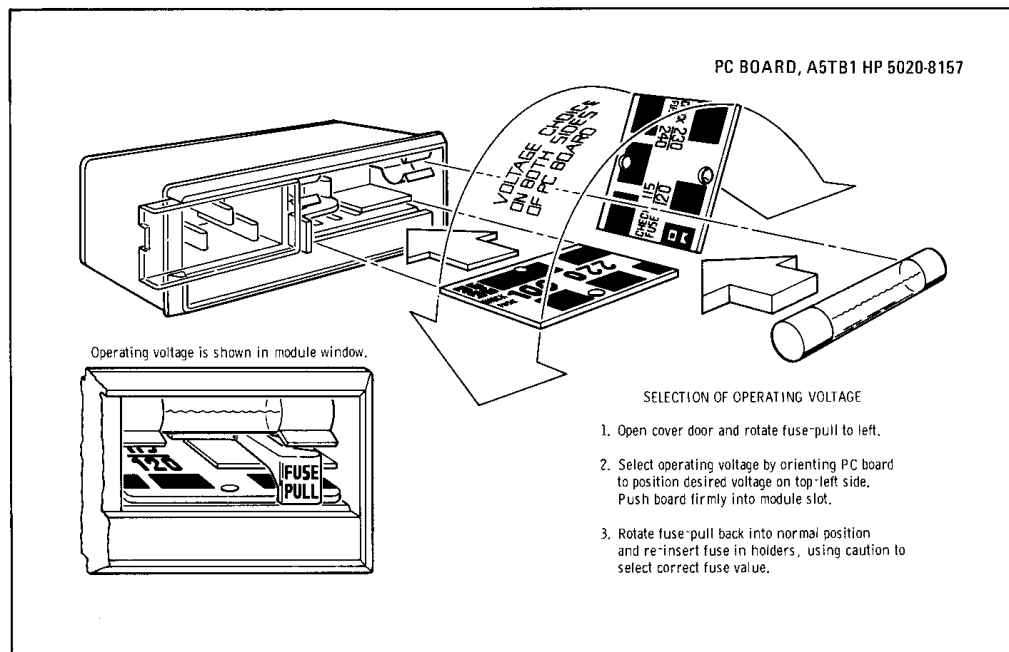

Figure 2. Line Voltage Selection
Figure 2 provides instructions for line voltage and fuse selection.
**Rear Panel Fuse Replacement.** The main ac line fuse is located on the rear panel next to the power cable jack. For fuse replacement instructions, refer to Figure 2.